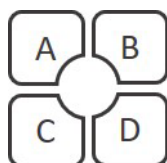

Figure 7. Location and numbering of injection ports on Agilent Seahorse XF sensor cartridges.
- 4 Load 25 μL of compound to each injection port, according to **Table 7**. For the location of the ports, refer to **Figure 7**.